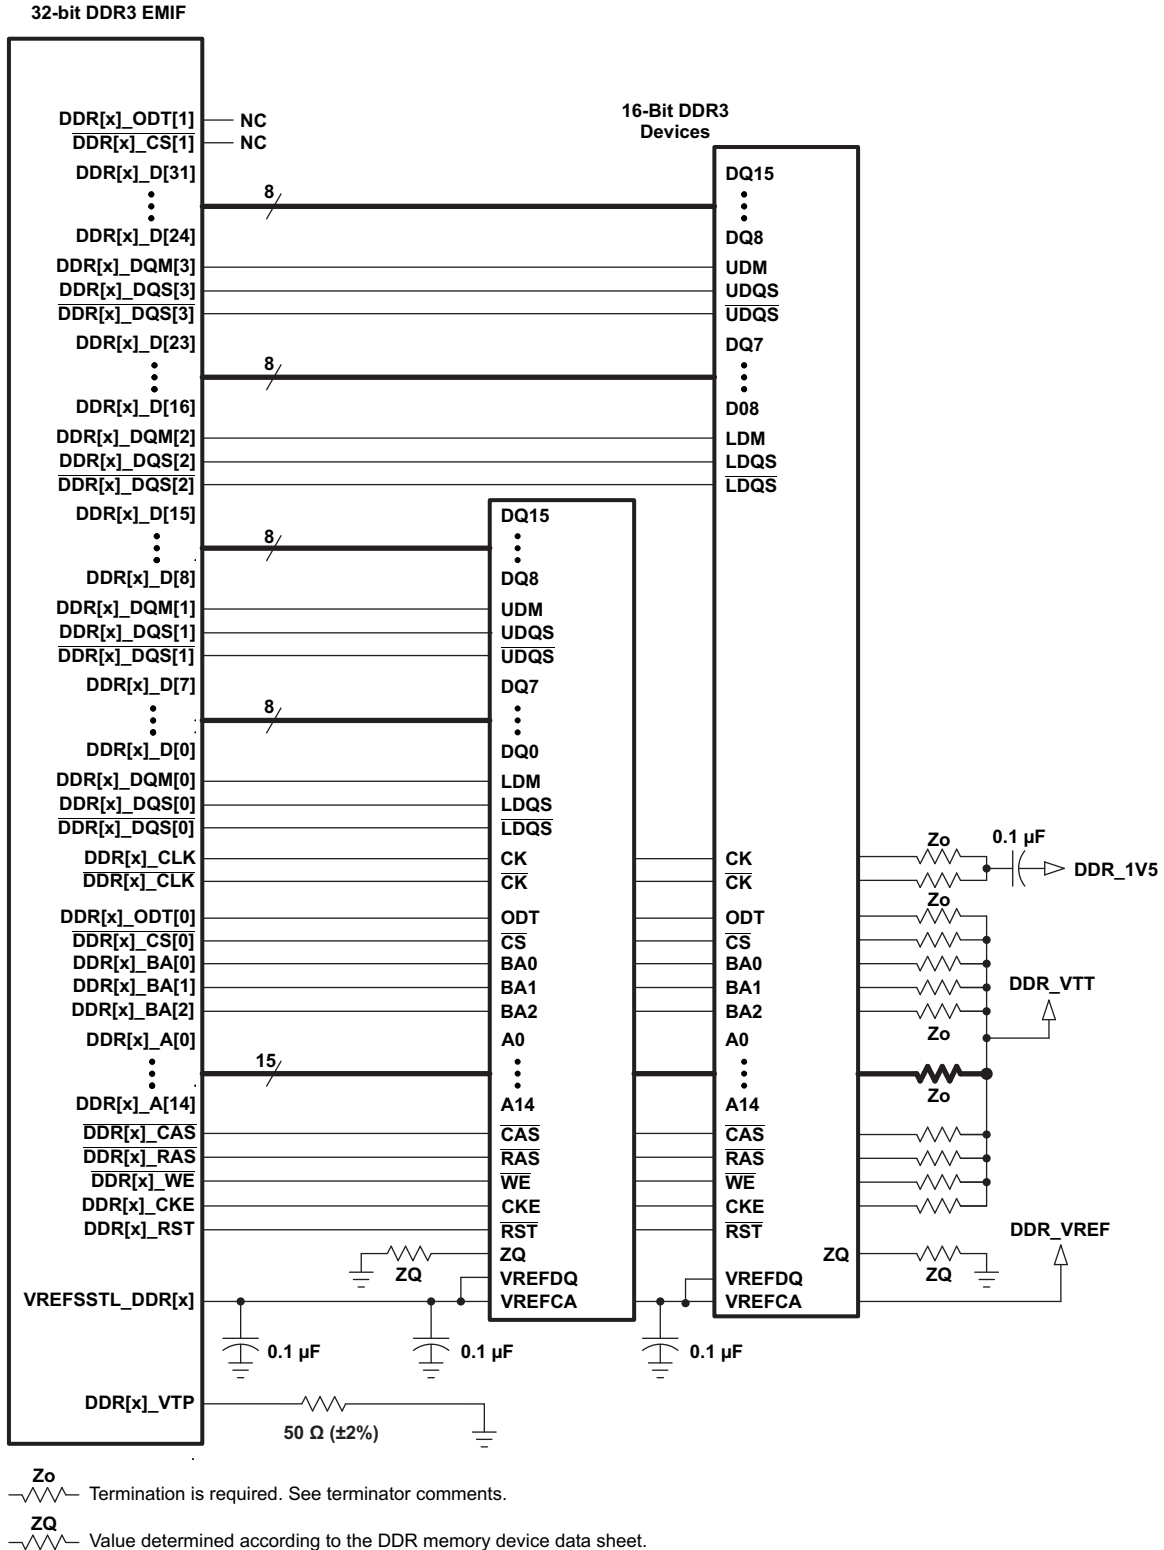

Figure 8-54. 32-Bit, One-Bank DDR3 Interface Schematic Using Two 16-Bit DDR3 Devices
The DDR3 interface schematic varies, depending upon the width of the DDR3 devices used and the width of the bus used (16 or 32 bits). General connectivity is straightforward and very similar. 16-bit DDR devices look like two 8-bit devices. Figure 8-54 and Figure 8-55 show the schematic connections for 32-bit interfaces using x16 and x8 devices.
(1) DDR3 speed grade depends on desired clock rate. Data rate is 2x the clock rate. For DDR3-800, the clock rate is 400 MHz.
(2) DDR3 devices with speed grades up to DDR3-1600 are supported; however, max clock rate will still be limited to 533 MHz as stated in *Switching Characteristics Over Recommended Operating Conditions for DDR3 Memory Controller*.
(3) For valid DDR3 device configurations and device counts, see Section 8.13.4.2.4, Figure 8-54, and Figure 8-55.